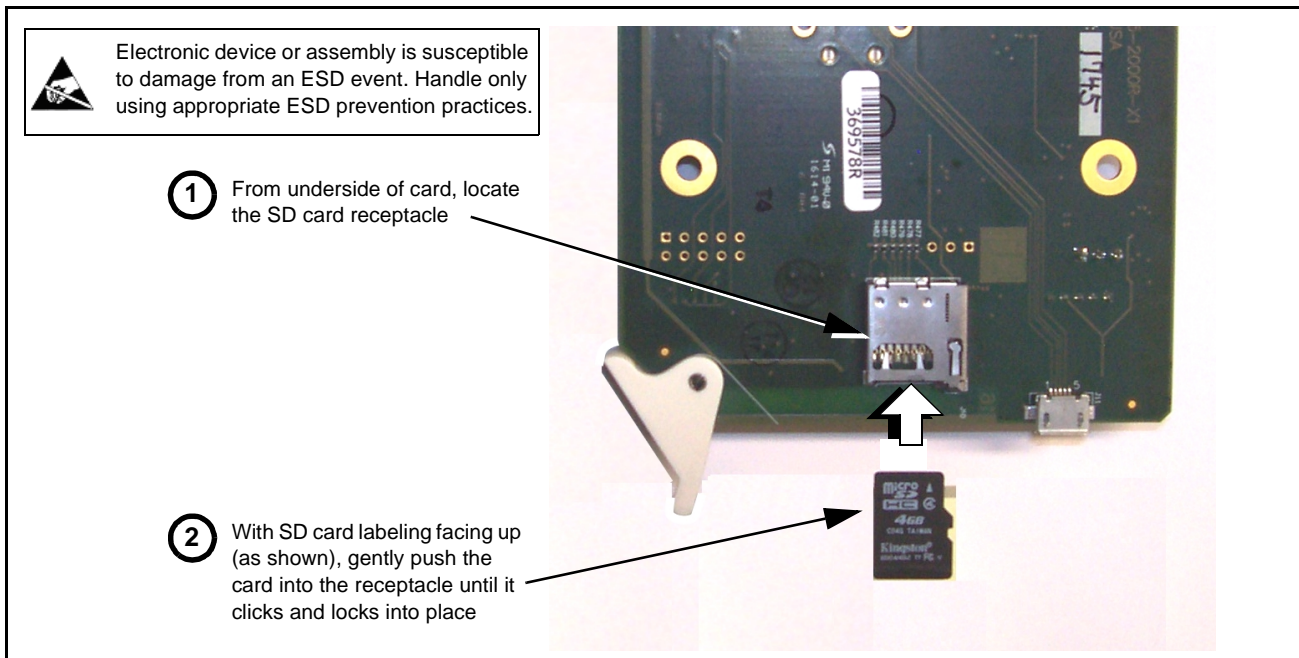

Figure 3-13 SD Card Installation
1. (See Figure 3-13.) Make certain the card has the proper SD card installed in the under-card slot. If SD card is **not** installed, contact Product Support to obtain an SD card.